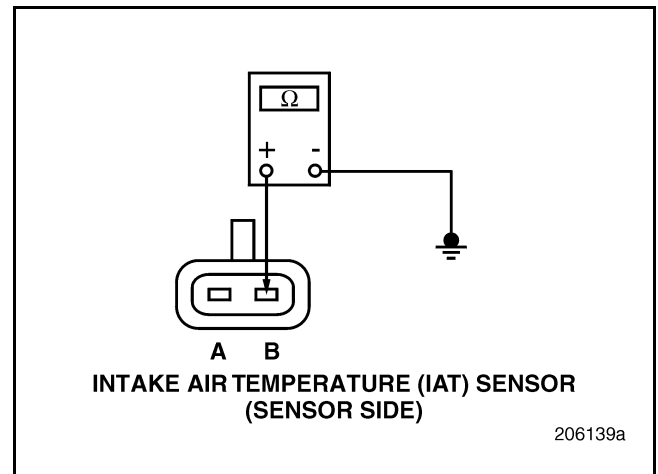

Figure 195
3. Check for continuity between either pin of the IAT Sensor and a good ground (see Figure 195).